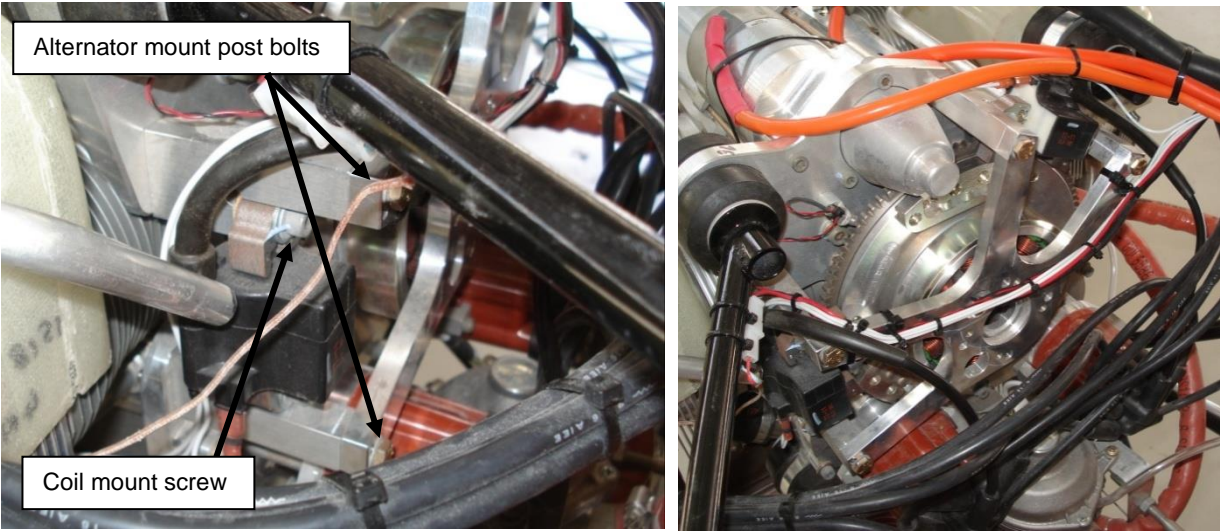

Figure 184 – Ignition Post & Alternator Stator Installation
- The alternator and ignition coil posts are held to the engine using 4 off AN4-37A bolts. Ensure that metal-lock nuts are used as shown in Figure 184. Roll pins are also used to hold these parts in position – tap them together on assembly using a soft hammer.